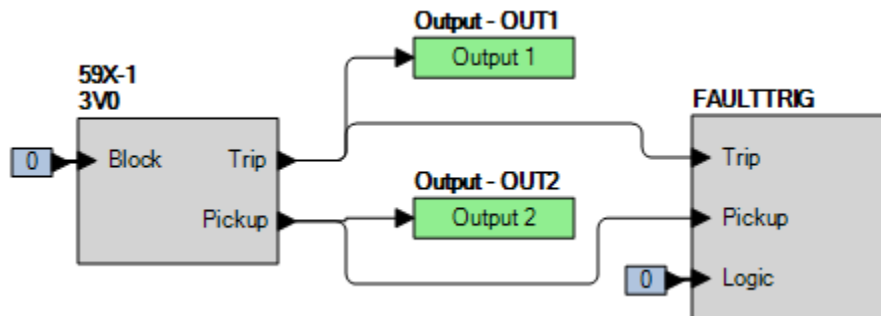

Figure 60-1. BESTlogic*Plus* Settings (3V0 Mode)
Step 2: Use BESTCOMS*Plus* to configure the BESTlogic*Plus* programmable logic shown in Figure 60-1.
Step 4: Prepare to monitor the 59X-1 function operation. Operation can be verified by monitoring OUT2 (see Figure 60-1).